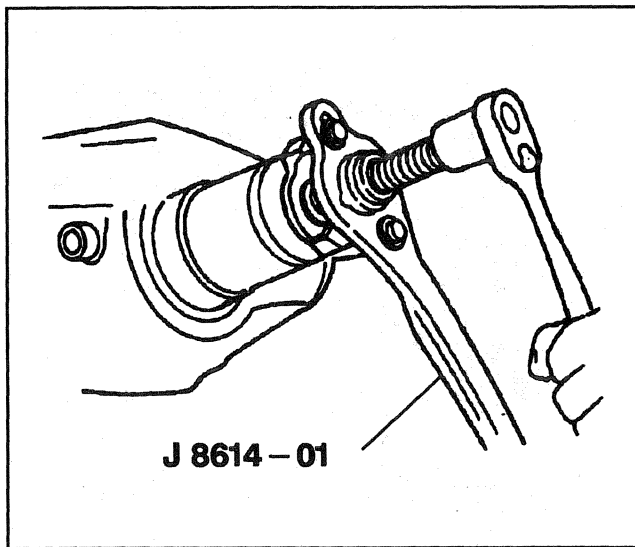

Figure 11—Removing the Pinion Flange
19. Pinion flange using J 8614-01 (Figure 11).